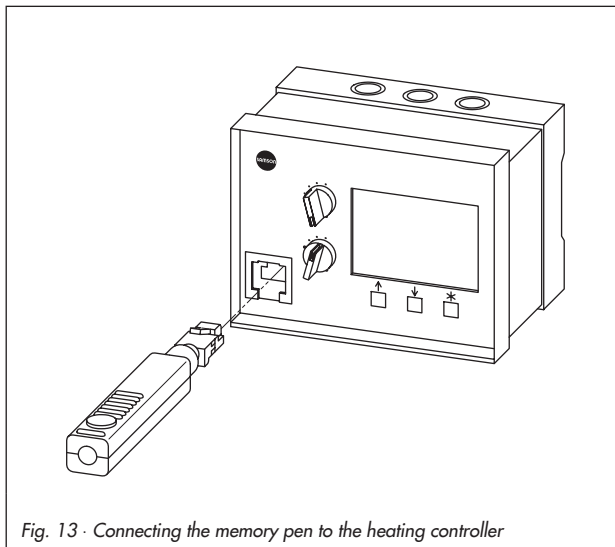

Fig. 13 · Connecting the memory pen to the heating controller
1. Insert the memory pen in the connector as shown in Fig. 13. The following message appears on the display: SP-31. In this configuration, the data is uploaded from the memory pen (SP) to the heating controller (31).